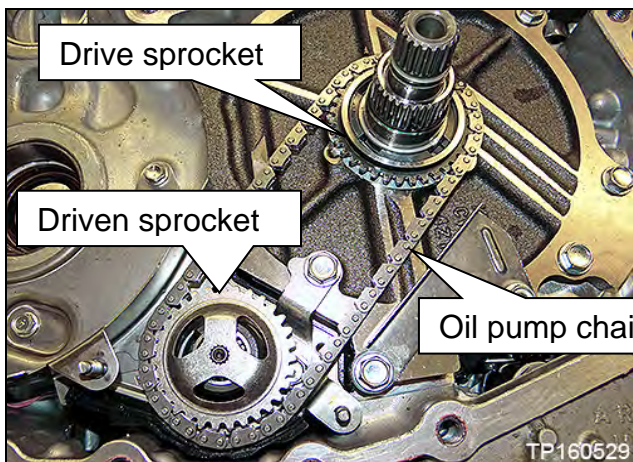

Figure 12B
9. Remove the oil pump chain, driven and drive sprockets as one assembly (Figure 12B).